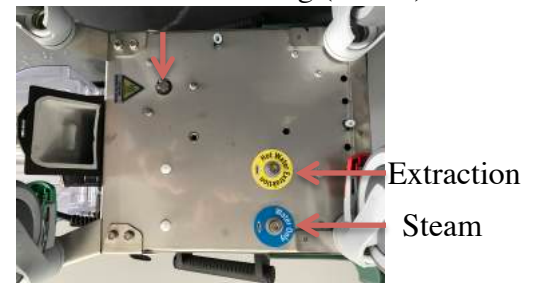

Figure 1: Remove Exhaust Cover
- ① The Blue Evolution must be cool and at room temperature before descaling.
- ② Place the Blue Evolution on a flat surface and lock all 4 wheels.
- ③ Tilt the Blue Evolution and remove the exhaust cover (see figure 1).